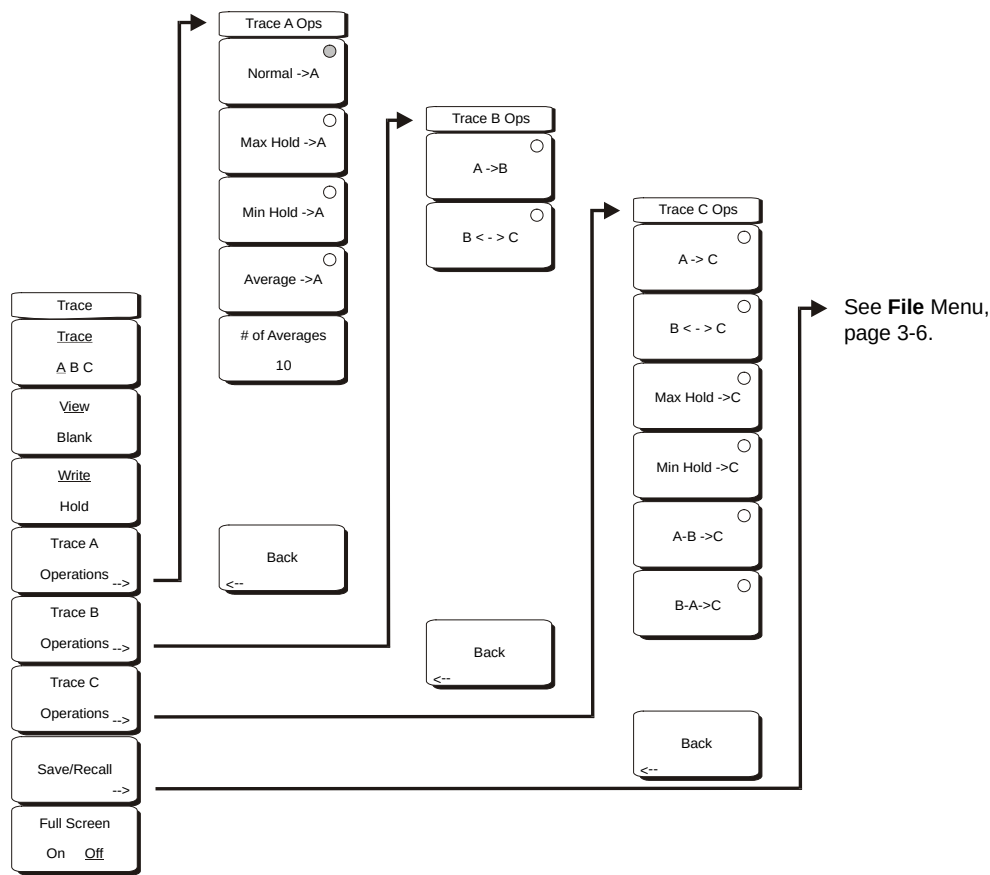

Figure 3-14. Trace Menu Soft Keys
To access the functions under the Trace menu, select the **Shift** key, then the **Trace** (5) key. The Spectrum Master is capable of displaying up to three traces, one with live data, Trace B with either live data or a stored measurement and Trace C with a stored measurement. The Trace menu soft keys are shown in Figure 3-14.